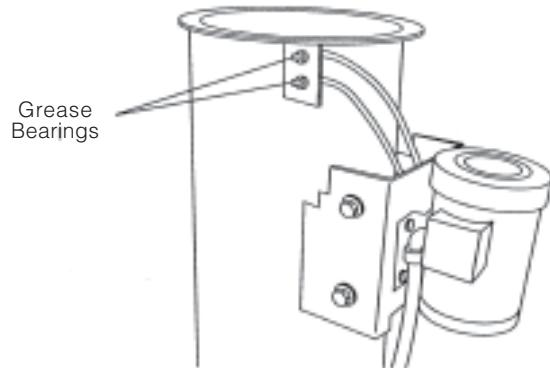

Figure 3-41. Optional Exhaust Fan Grease Bearings
b. Attach a remote bracket (supplied by others) and grease fittings to an easily accessible location on the washer exterior. Run a separate copper line from each remote grease fitting to the grease bearings located at top of exhaust fan housing (see Figure 3-41).